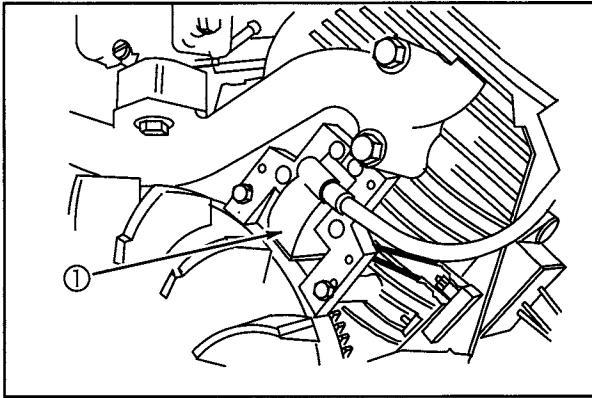

Fig. 13
2. Remove armature screws and lift off armatures (1), **Fig. 13**.